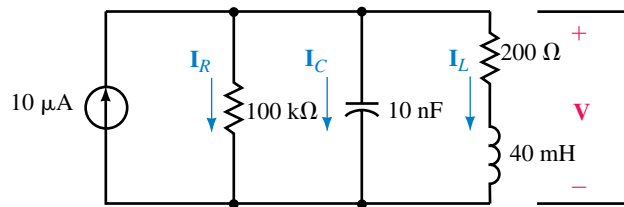

FIGURE 21–67
27. Determine the values of R_1 and C for the resonant tank circuit of Figure 21–68 so that the given conditions are met. Solve for current I_L through the inductor.